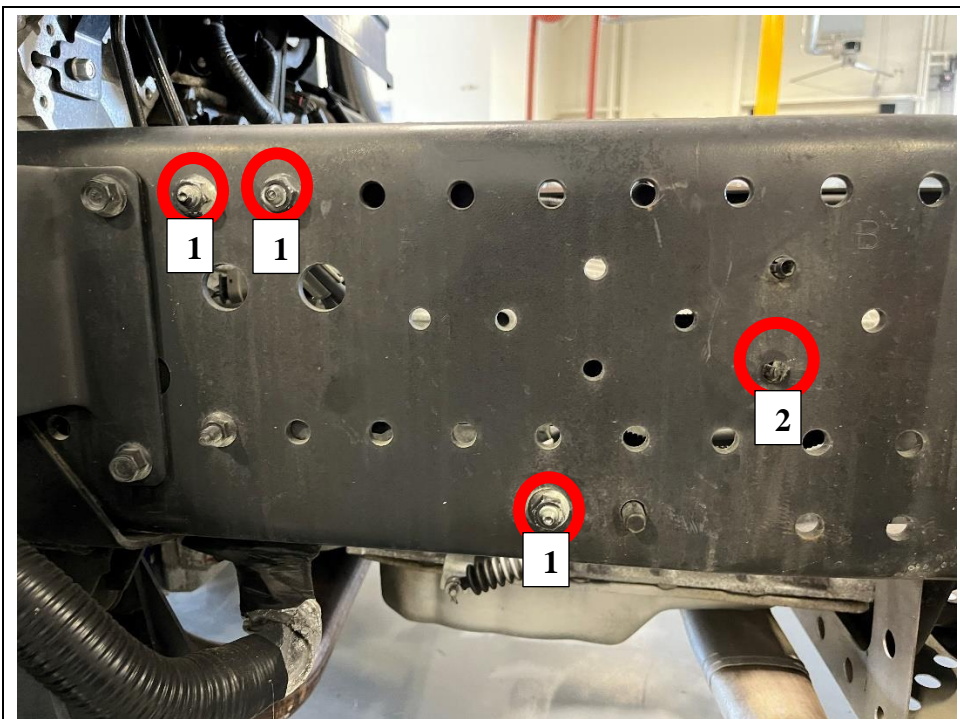

Figure 1
2. **For NPR/NPRHD ONLY** - Remove three (3) nuts and bolts (14mm) securing the transmission cooler lines and release one (1) chassis harness clip. (See Figure 1.) **(For NQR/NRR proceed to Step 3.)**
20. **For NPR/NPRHD ONLY** - Secure the chassis harness to the frame by pushing the one (1) clip removed in Step 2, back into the frame. (See Figure 1.) **(For NQR/NRR skip to Step 22.)**